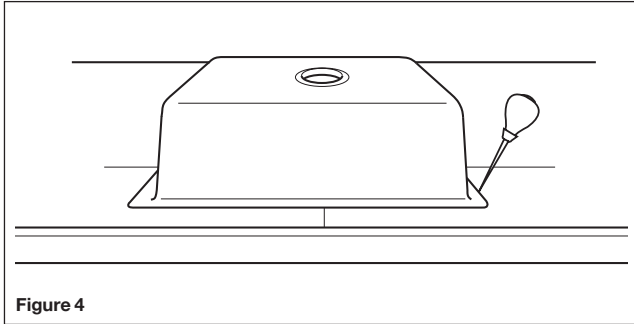

Figure 4
- Align the molded-in alignment marks on the outside rim of the sink with the scratched-in lines on the sheet. Scratch the outside perimeter of the sink onto the backside of the top. Remove the sink. (See Figure 4)